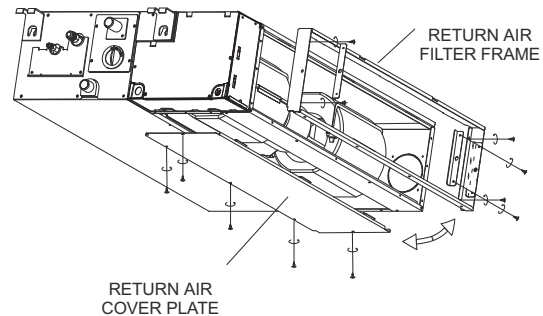

Fig. 10 — Removing Air Filter Frame and Cover Plate
2. Remove the screws that secure the return air cover plate to the bottom of the unit and set the cover plate aside. See Fig. 10 below.